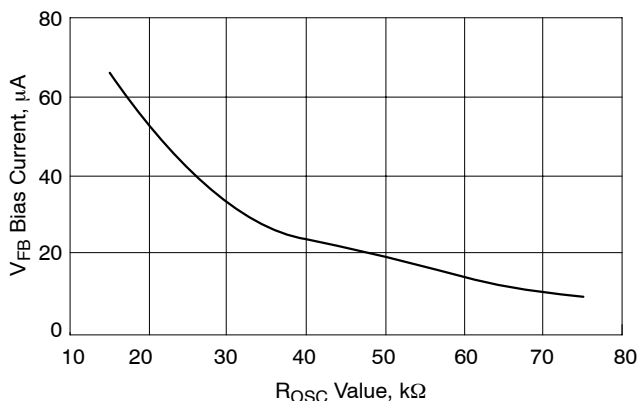

Figure 4. VFB Bias Current vs. ROSC Value
2. The V_{FB} Bias Current changes with the value of R_{OSC} per Figure 4.
To set the no–load positioning a resistor (R9) is placed between the output voltage and V_{FB} pin. The V_{FB} bias current will develop a voltage across the resistor to decrease the output voltage. The V_{FB} bias current is dependent on the value of ROSC. See Figure 4 on the datasheet.